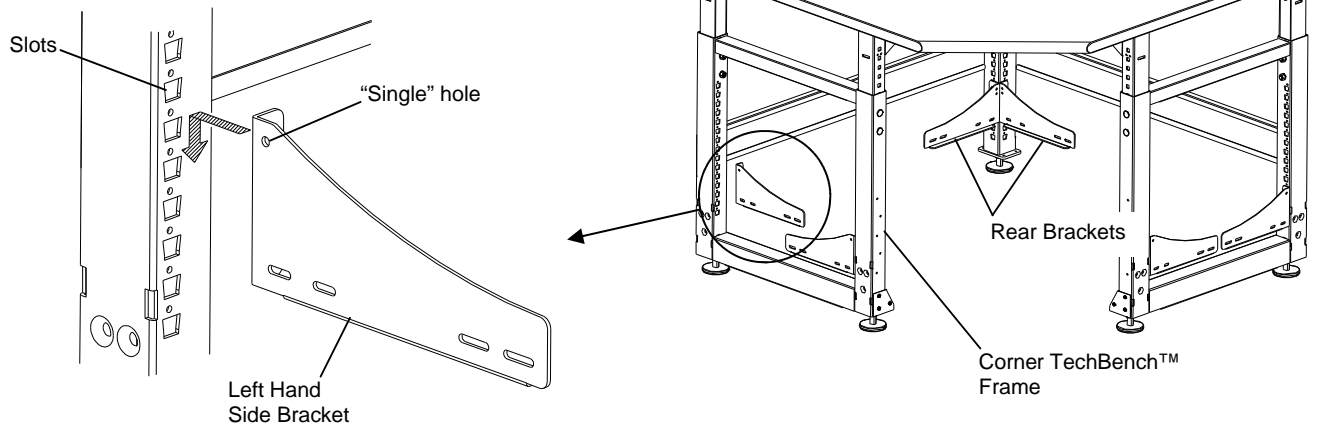

Figure 3
3. Install the four Side Brackets on the Lower Side Frames at the same height as the Rear Brackets. See figure 3. Tap the top of each bracket with a plastic mallet to ensure that the hooks are fully seated.